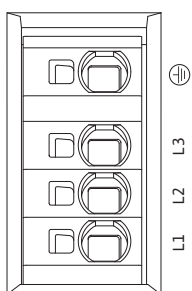

Fig. 31: Borne electrice (borne de rețea)
- Borne electrice (borne de rețea) (Fig. 31)